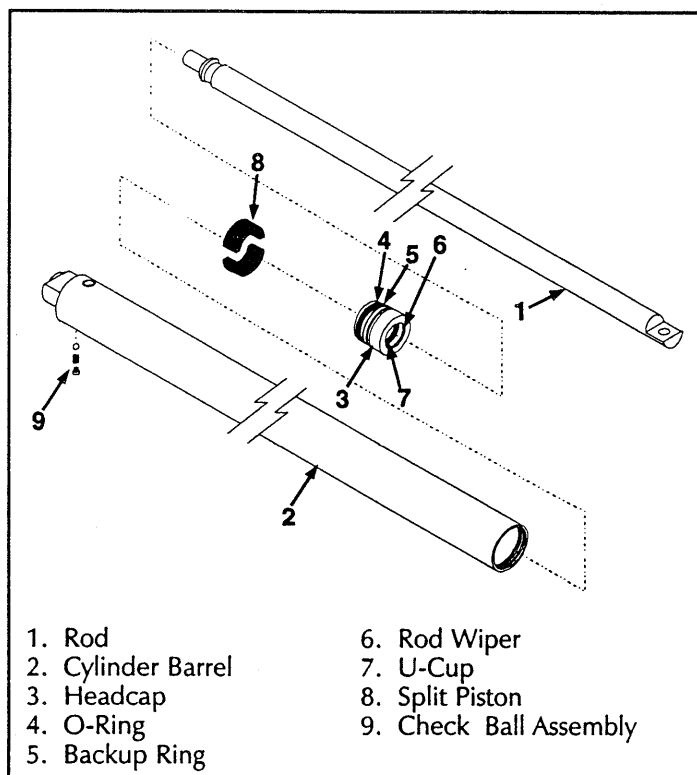

Figure 4-12: Lift Cylinder
4.12 Lift Cylinder (Figure 4-12 & 4-13)
DISASSEMBLY (Figure 4-12)